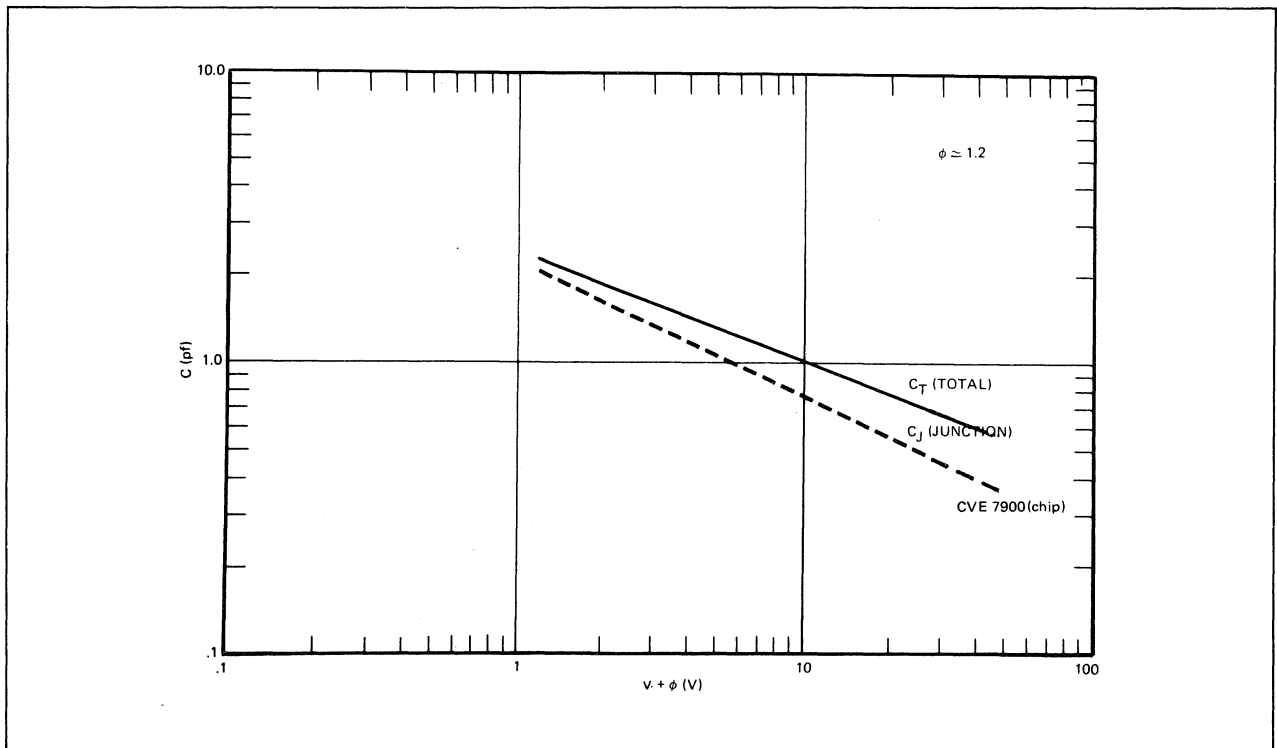

Figure 4. Typical Capacitance vs. Voltage
3.  $\frac{C_{TO}}{C_{TVB}}$  is the minimum total capacitance ratio which includes the package capacitance that is normally 0.2 pF. The ratio for diode model DVE4554 may be somewhat lower than specified due to the higher stray capacitance of the 092 package. A typical capacitance versus voltage plot appears in Figure 4.